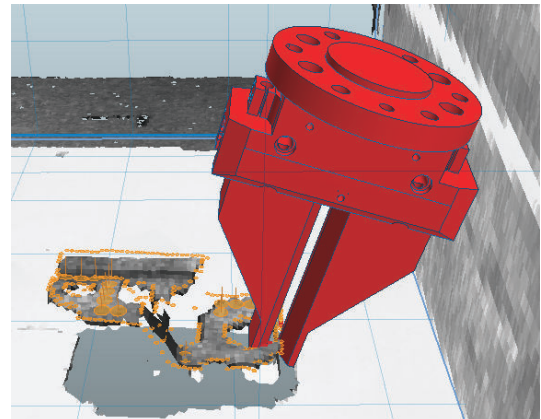

Figure 85: Collision at pick pose
- If a collision at the pick pose was detected, the gripper turns red, see figure 85, page 93.